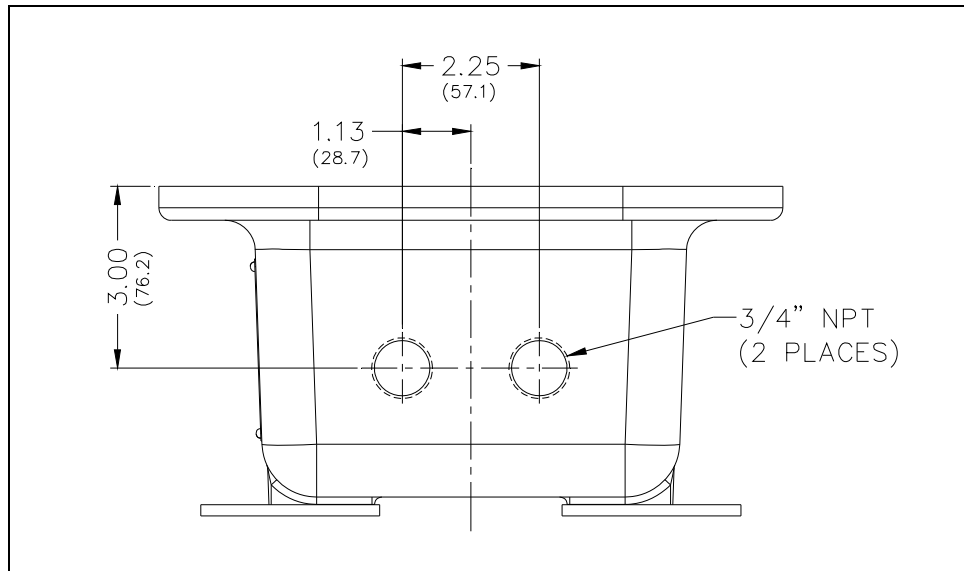

Figure 6. Model 352 Series Conduit Entries
- All conduit NPT plugs (blanking elements) must be explosion-proof with a Type 4X rating (see Figure 6).